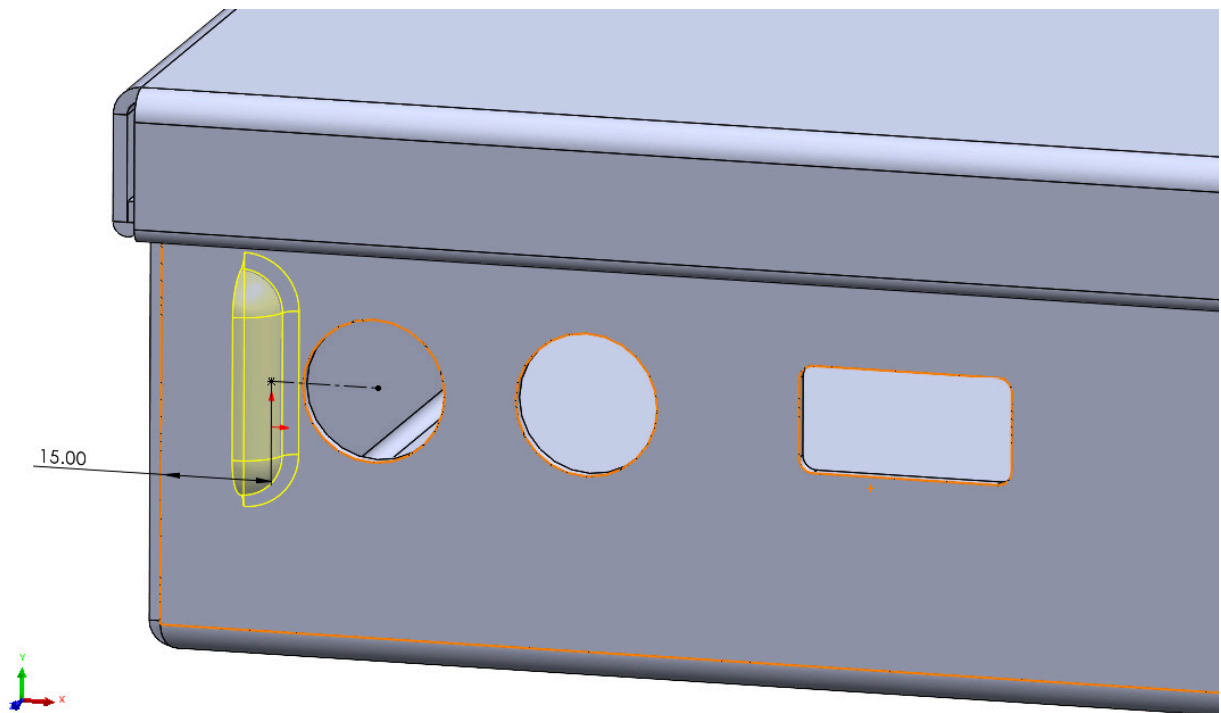

Figure 13.26 – Positioning the formed handle
7. Use the **Positions** tab within the Forming Tool Property Manager to precisely position the Forming Tool (*Figure 13.26*). You may have to use the **Point** tool to place a *point* at the position where the tool should be placed: